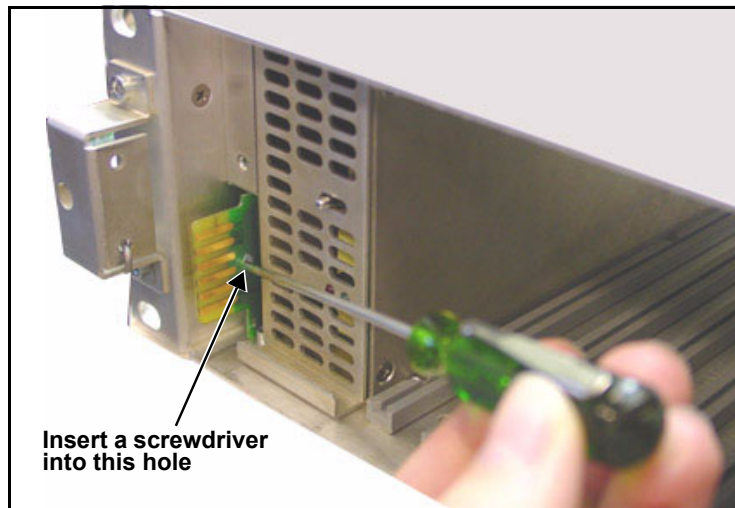

Figure A-1. Removing a Resource Card
3. Insert a screwdriver into the card-removal hole on the resource card, and then pull the resource card out of its slot. See Figure A-1.